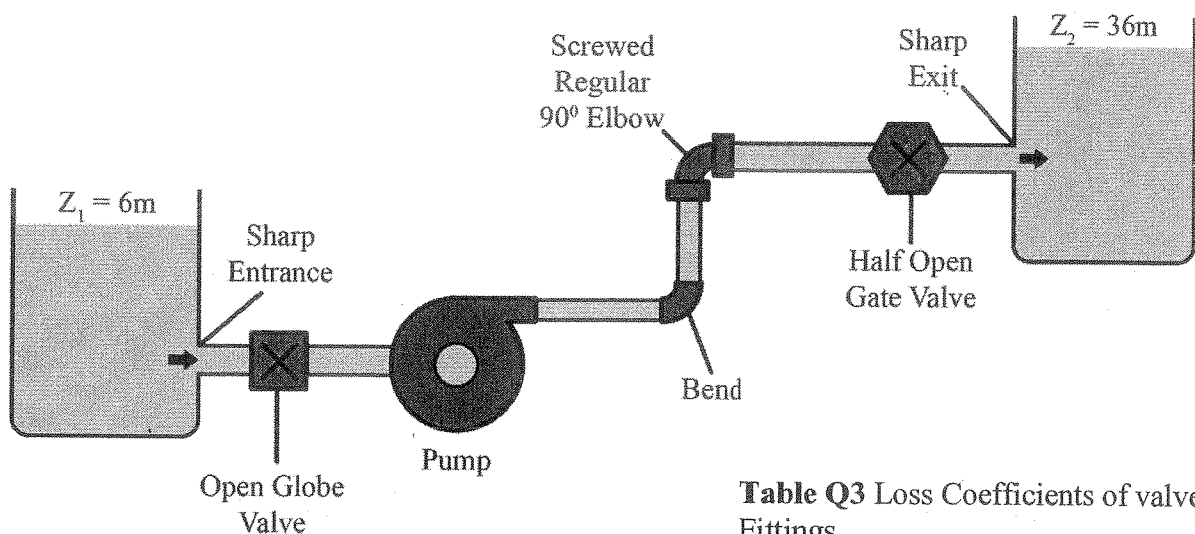

Figure Q3
c) Water is pumped between two large reservoirs at a rate of  $0.05 \text{ m}^3/\text{s}$  through a 120 m long cast iron pipe of 10 cm diameter as shown in Figure Q3. The water levels of the reservoirs are measured from the datum which passes through the center of the pump and are found to be  $Z_1=6 \text{ m}$  and  $Z_2=36 \text{ m}$ . Loss coefficients ( $K$ ) for valves and fittings are given in the Table Q3. Taking density ( $\rho$ ) =  $1000 \text{ kg/m}^3$  and dynamic viscosity ( $\mu$ ) =  $1.02 \times 10^{-3} \text{ Ns/m}^2$  for water, determine the following.